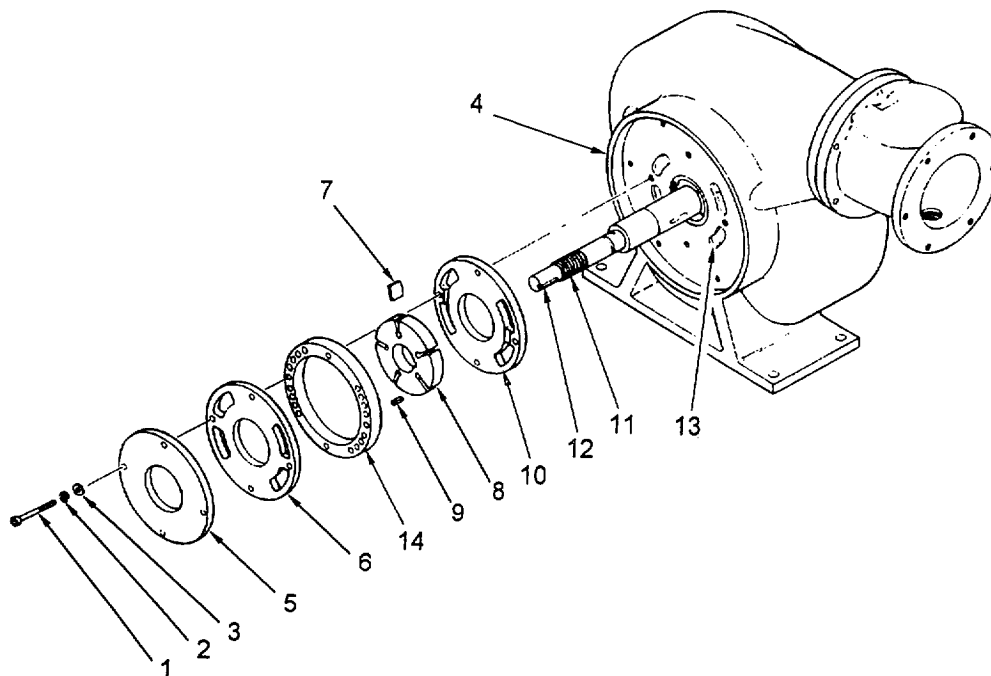

Figure 5-6. Rotary Vane Pump Repair
5.4.4 Repair of Rotary Vane Pump. (Refer to figure 5-6.)